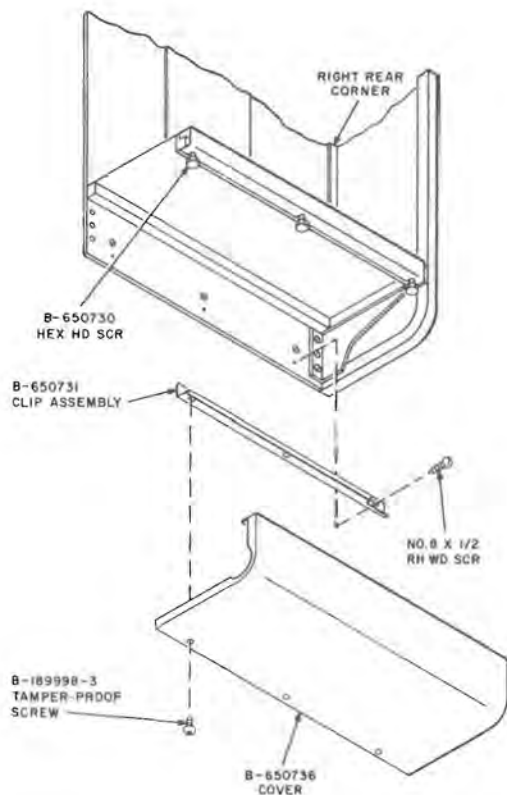

Fig. 9—Installation of KS-19267, List 13 Cover Assembly
3.19 Install KS-19267, List 13 cover assembly per Fig. 9.